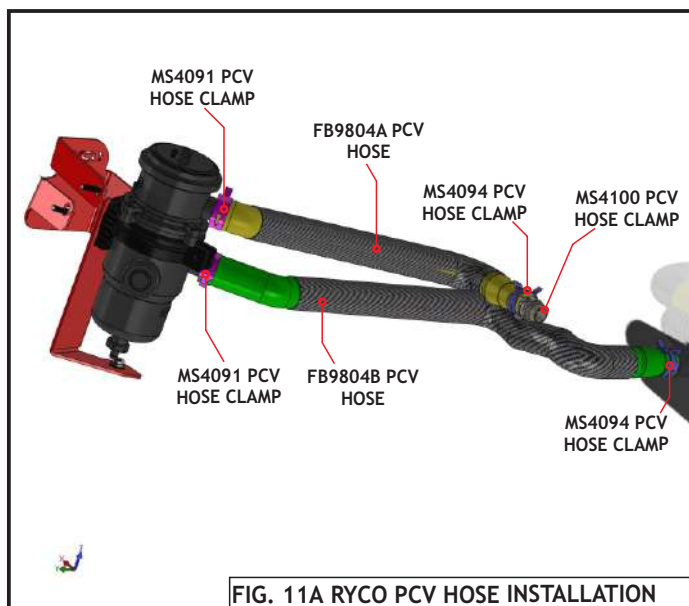

FIG. 11A RYCO PCV HOSE INSTALLATION
3. Starting with the longer supplied MH9804B PCV hose, install the small end on to the Engine PCV Port & tighten with a supplied MS4094 hose clamp as shown in Fig. 11A & 11C.
4. Install the other end of the MH9804B PCV hose on to the lower, inlet port, of the RCC351 Catchcan and tighten with an MS4091 hose clamp as shown in Fig. 11A & 11C.